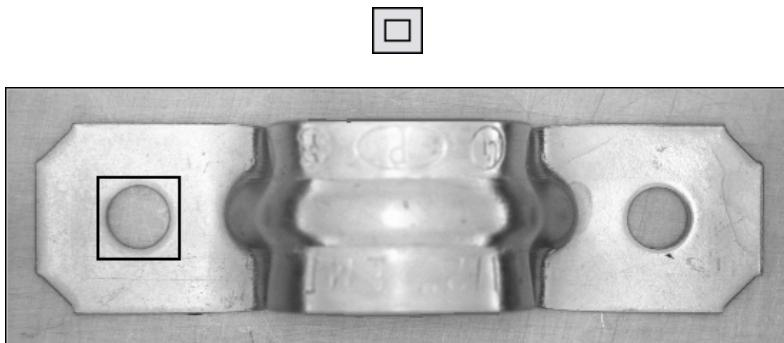

Figure 4-2. Selecting a Template Pattern
4. With the **Rectangle Tool**, click and drag to draw a square ROI around the left hole in the image, as shown in Figure 4-2. The ROI becomes the template pattern.